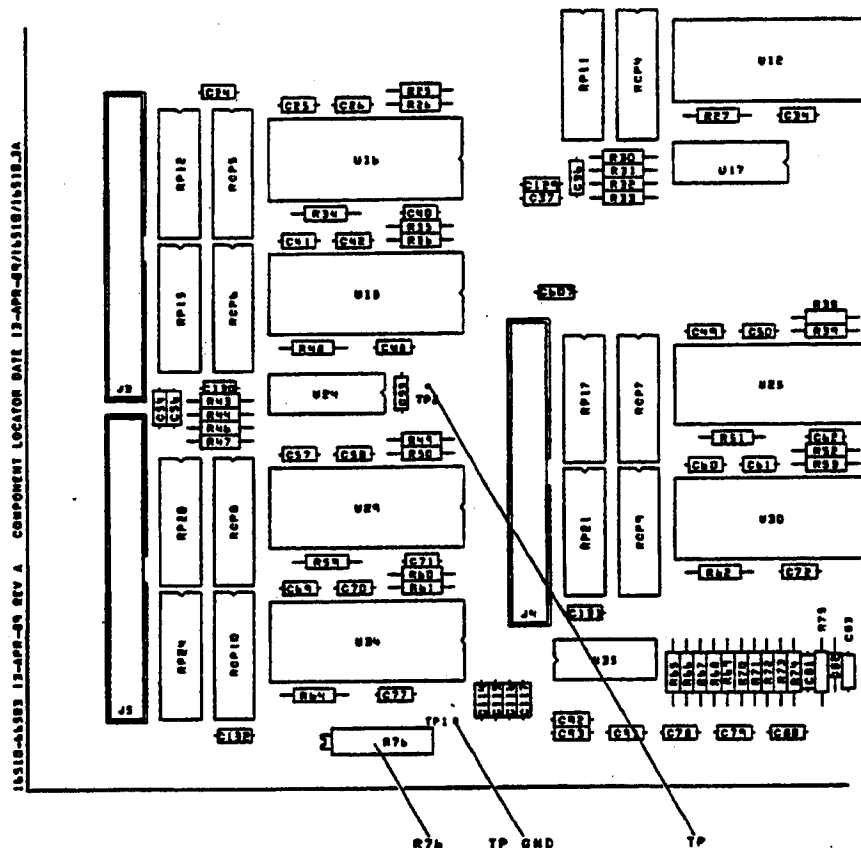

Figure 4-3. Adjustment Pod Location
- a. Connect the positive lead from the multimeter to the TP and the negative lead to the TP GND. For the location of the test points and the adjustable resistor, refer to figure 4-3.